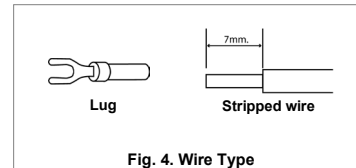

Fig. 4. Wire Type
- Use flexible cable (stranded or solid) of AWG No. 20-12. The input/output connectors' allowable current is 23A max per pin. User should calculate and select the suitable wire specification (type/quantity/diameter) according to actual output current. The torque at the connector shall not exceed 13Kgf.cm. The insulation stripping length should not exceed 0.275" or 7mm (Refer to Fig. 4).